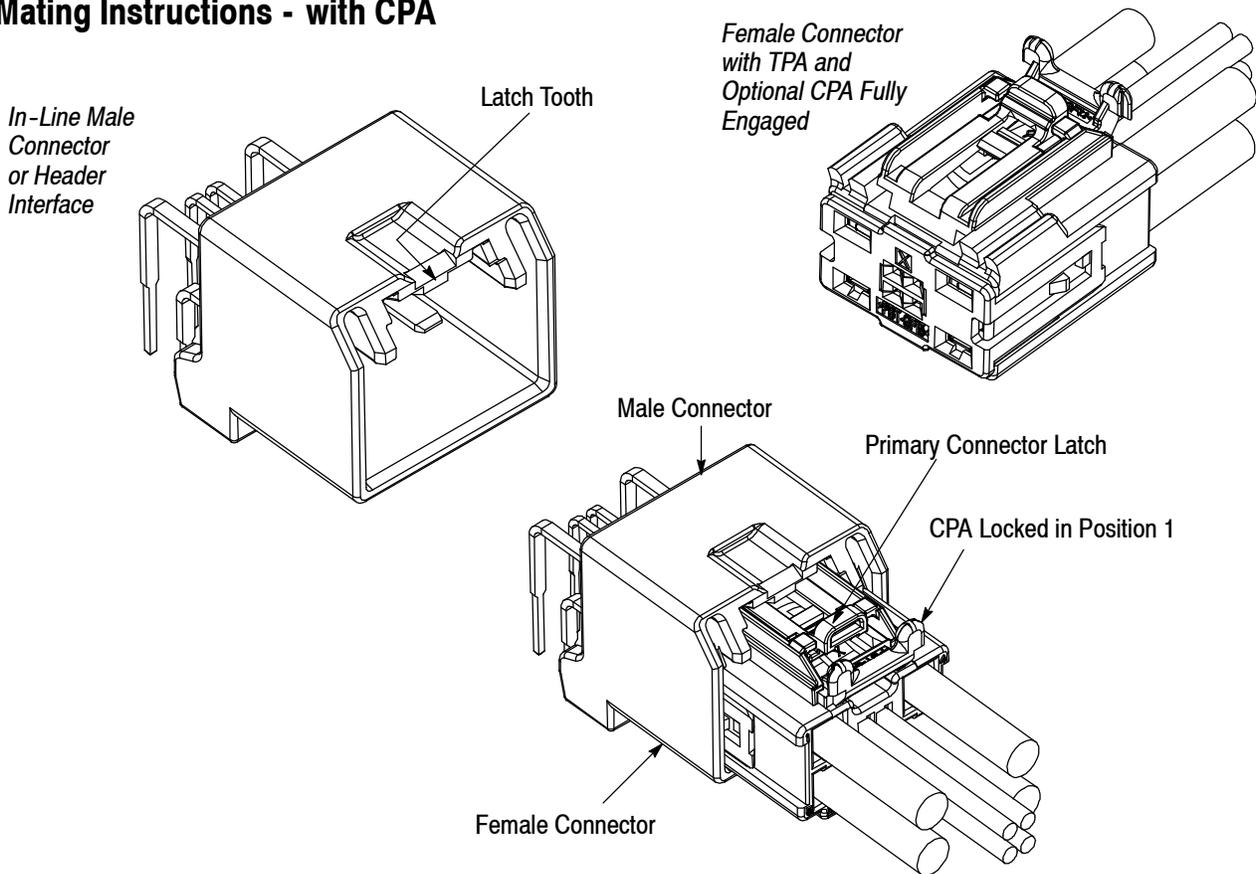

Figure 6
CPA can not move forward or backward until the connectors are mated and the primary connector latch “clicks” and engages the interface latch tooth. See Figure 6.
1. The TPA must be in the locked position before connector will move. See Figure 6.